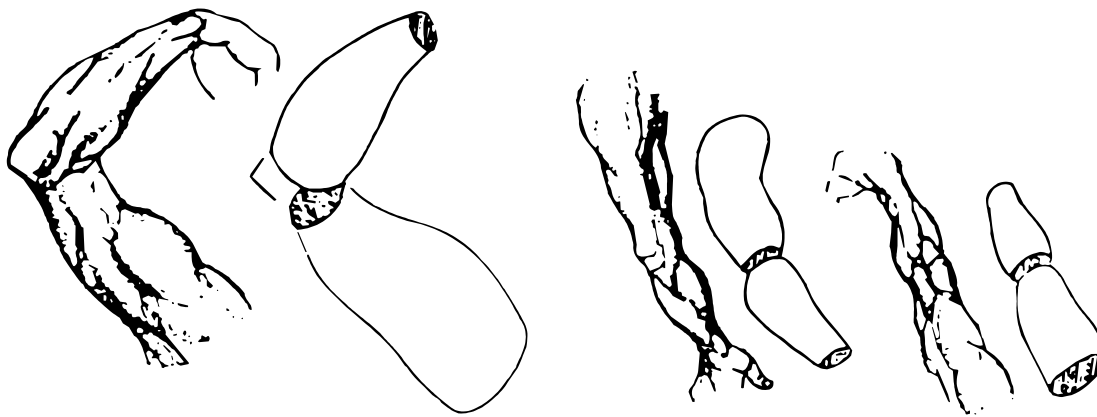

Figure K-5. The arm.
(1) From the front, the arm wedges downward and enters the forearm just below the elbows. When the thumb is turned away from the body, the mass of the forearm is oval in shape, becoming round when the thumb is toward the body because the bones of the forearm cross. From the back, the mass of the shoulder enters the arm on the side; and at the elbow, the arm and forearm are like a hinge joint.
(2) The upper and lower arms are modified cylinders of approximately equal length (Figure K-5). The cylinders for the arms are much like the cylinders used for the construction of the torso, only much narrower. The cylinders forming the arms may be drawn at greater angles in relation to each other than the cylinders forming the torso, because the arm bends much more than the torso.